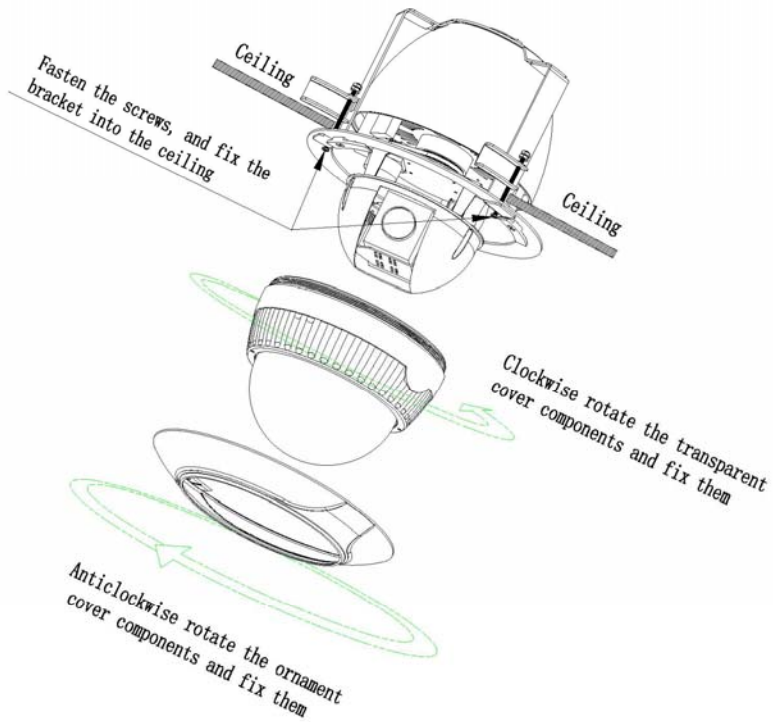

Figure 10
5. Install the bracket components into the installation hole, fasten the screws to fix the bracket; **clockwise** rotate and fasten the transparent cover, and then **counterclockwise** rotate the ornament cover components to install them, as per figure 10.